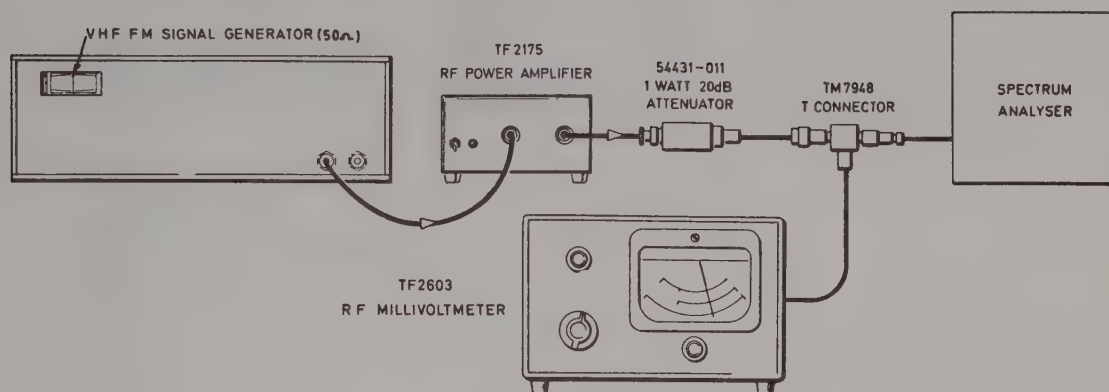

Fig. 2 Harmonic measurement
11. Connect the equipment as shown in Fig. 2 and then proceed as follows:-